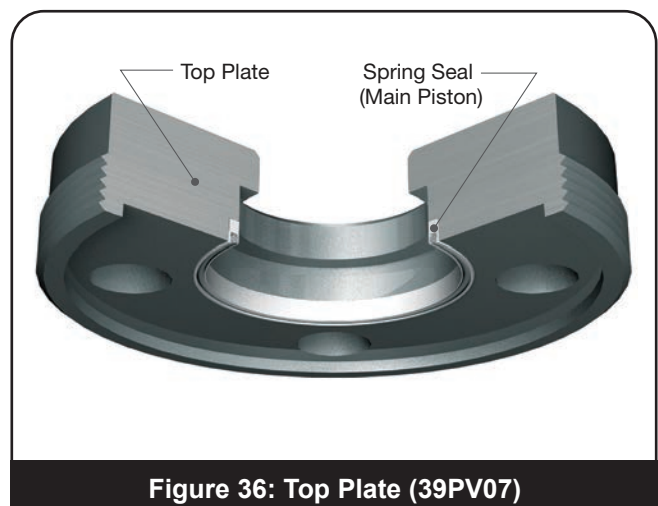

Figure 36: Top Plate (39PV07)
- a. Lubricate the Spring Seal (Main Piston) and Top Plate gland. Install the Spring Seal (Main Piston) into Top Plate. The spring should be oriented as shown in Figures 36 or 37.